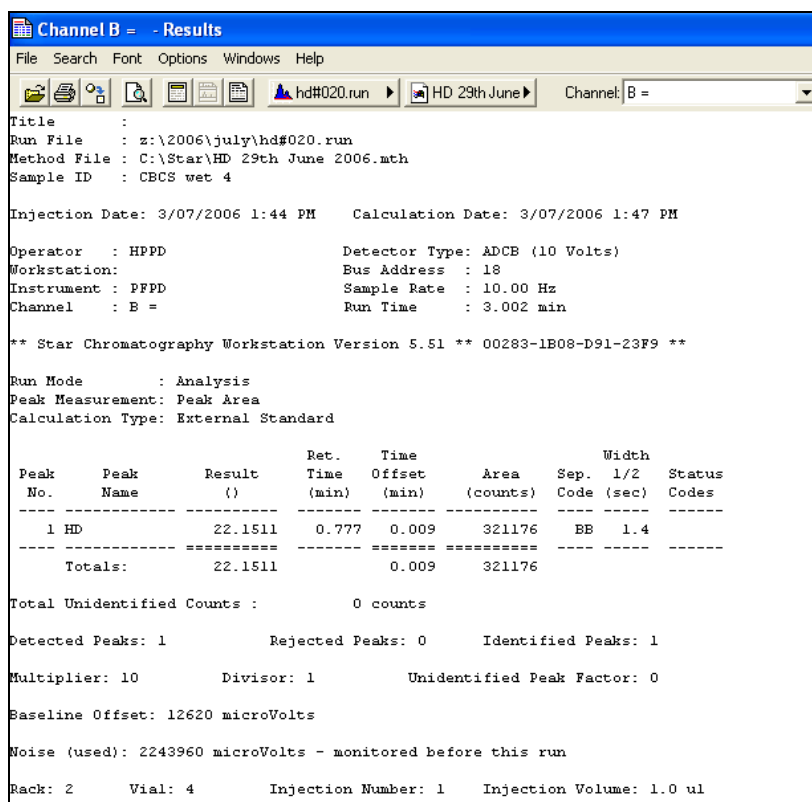

Figure 13: 'Results Only' Screen
11) Go to 'View Results Only', which will provide the following information (see figure 13):